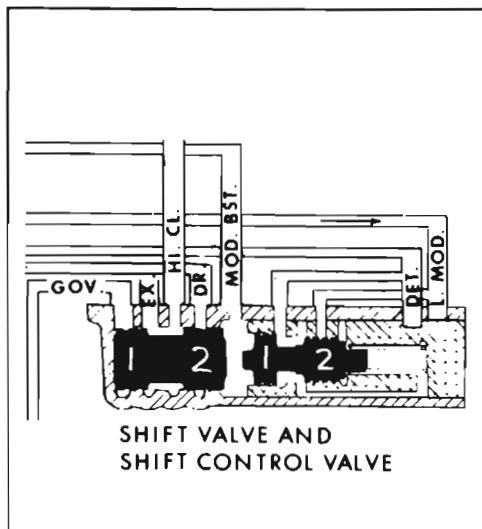

Figure 5-22—Manual Low
With the manual shift control valve positioned in low (L) range oil under pressure is directed to the space between the shift valve and the shift regulator valve. Oil under pressure in this space moves the shift valve to the end of its bore. With the shift valve thus positioned no oil under pressure is directed to the high clutch piston or spring side of the low servo piston, thus the low band is applied and the transmission is in low range. See Figure 5-22.